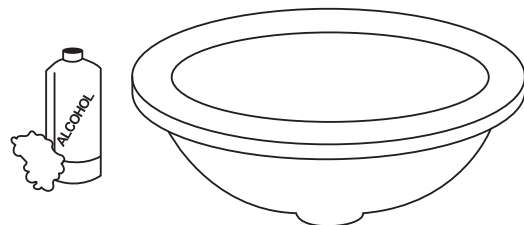

Figure C-9
- Clean the bowl's top flange and the cut-out with denatured alcohol and a clean, white cloth (Figure C-9).